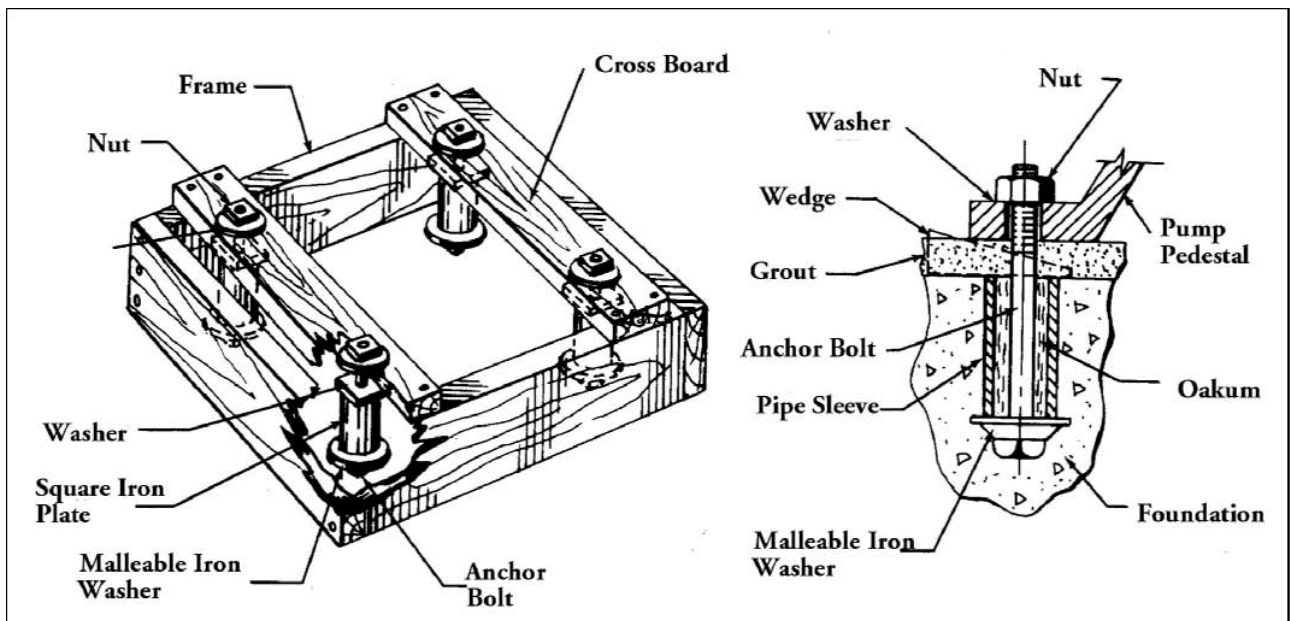

Figure 1 - A Recommended System of Foundation Construction
**PUMP FOUNDATIONS:** For permanence and quiet operation, it is important that the pump be firmly bolted down. Figure 1 illustrates the generally accepted method of anchorage. This system traps the bolt for anchorage, at the same time permits the bolt to move within the sleeve for aligning with the holes in the pump base. This permits the bolts to be adjusted slightly after concrete has set allowing the bolts to conform accurately with pedestal boltholes. This prevents strains or difficulties arising from slight dimensional discrepancies. Pipe sleeve should be about two and one half diameters larger than the bolts used, and the bolts must be long enough to permit the pump to be raised 1" from grouting. If a raised foundation is desired, it should be at least six inches greater in length and width than the base of the pump pedestal and at least deep enough to "bury" the recommended anchorage. It should never be superficially poured over a smooth concrete floor, but should be rooted by one of the following means: (a) when the concrete is newly poured, cast a shallow depression in the floor using a box form, (b) leave reinforcement bars protruding above the floor level or (c) gouge out holes in an existing concrete floor.